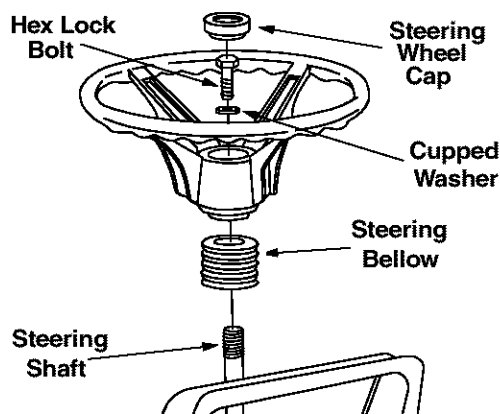

Figure 3
- Remove the steering bellow from the lift lever on the right hand side of tractor. Place steering bellow over the steering shaft extending through the dash. See Figure 3.
- Place the washer with the cupped side down over the steering shaft. Secure with hex lock bolt. See Figure 3.